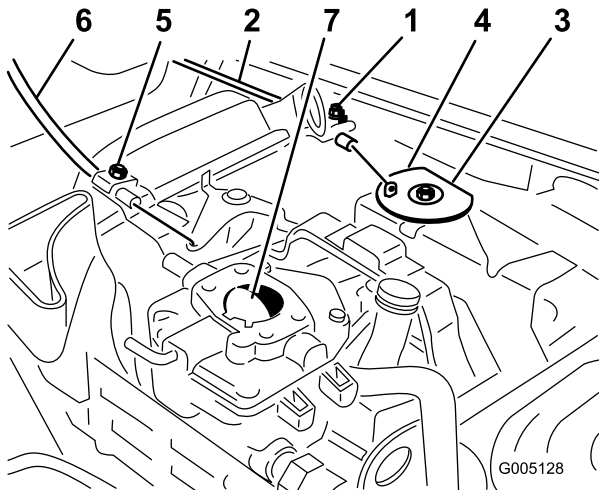

Figure 46
1. Loosen the cable clamp screw securing the cable to the engine (Figure 46).
3. Pull firmly on the throttle cable until the back of the swivel contacts the stop (Figure 46).
3. Pull firmly on the choke cable until the choke butterfly is completely closed, then tighten the cable clamp screw (Figure 46).